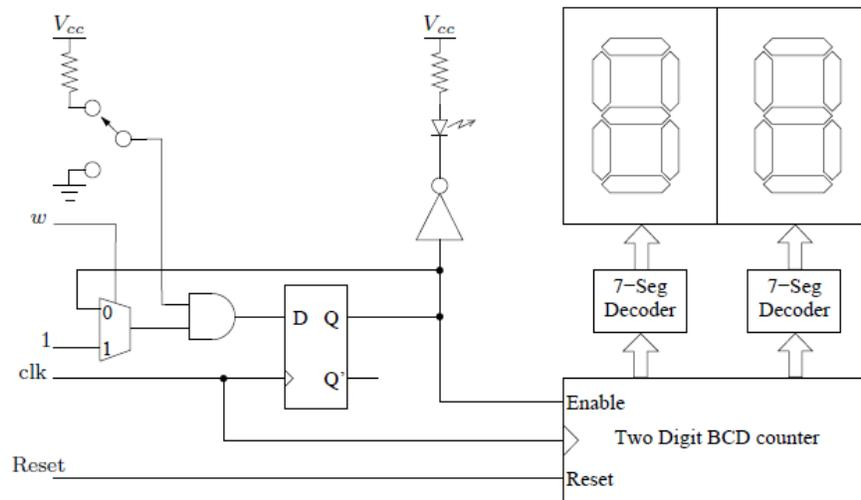

Figure 1. Circuit For Testing Your Reaction Speed.
In this lab you will design a sequential circuit to test your reaction speed. The basic idea is that you hit a switch as soon as you see an LED light up. The amount of time you took to react will be displayed on two 7-segment displays. Figure 1 shows the overall circuit that you will design and build. You will use a clock  $clk$  to drive a two-digit counter, the  $w$  signal will be a pulse that lights the LED. The LED will turn off as soon as you hit the switch, and the signal  $Reset$  can be used to reset the counters, the display and get the circuit ready to start over.
2. Now that you have a 100Hz clock, you can use that to count the time it takes you to press the switch after the LED goes on and display that on two 7-segment displays. To accomplish this you will need to write a code that will increment the least significant digit and every time it reaches the number 9 you reset it and increment the most significant digit. Write a Verilog code to implement the two digit BCD counter as shown in Figure 1.
3. Write a Verilog code to implement the entire circuit as shown in Figure 1. Use one of the LEDs on your board.